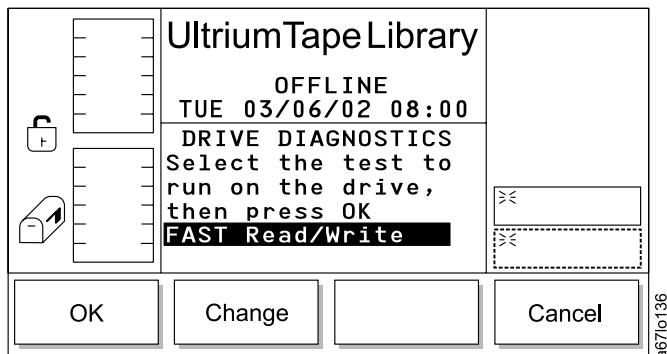

Figure 41. Drive Diagnostics screen
- c. To run the FAST Read/Write Test on the current drive, select **OK**. To run the test on a different drive, select **Change Drive** until the drive you want displays, then select **OK**, and then **Diags**. The Drive Diagnostics screen displays (see Figure 41).